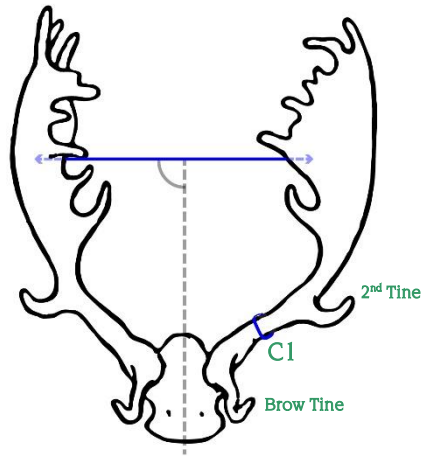

Figure 3
2. Circumference. Measure the circumference of each antler at the smallest point between the brow tine and the second tine. (Figure 3, C1) This can be anywhere between these two tines. In some cases, fallow buck may have additional antler growths or protuberances (tines) in this area and several measurements will have to be taken to find the smallest circumference.